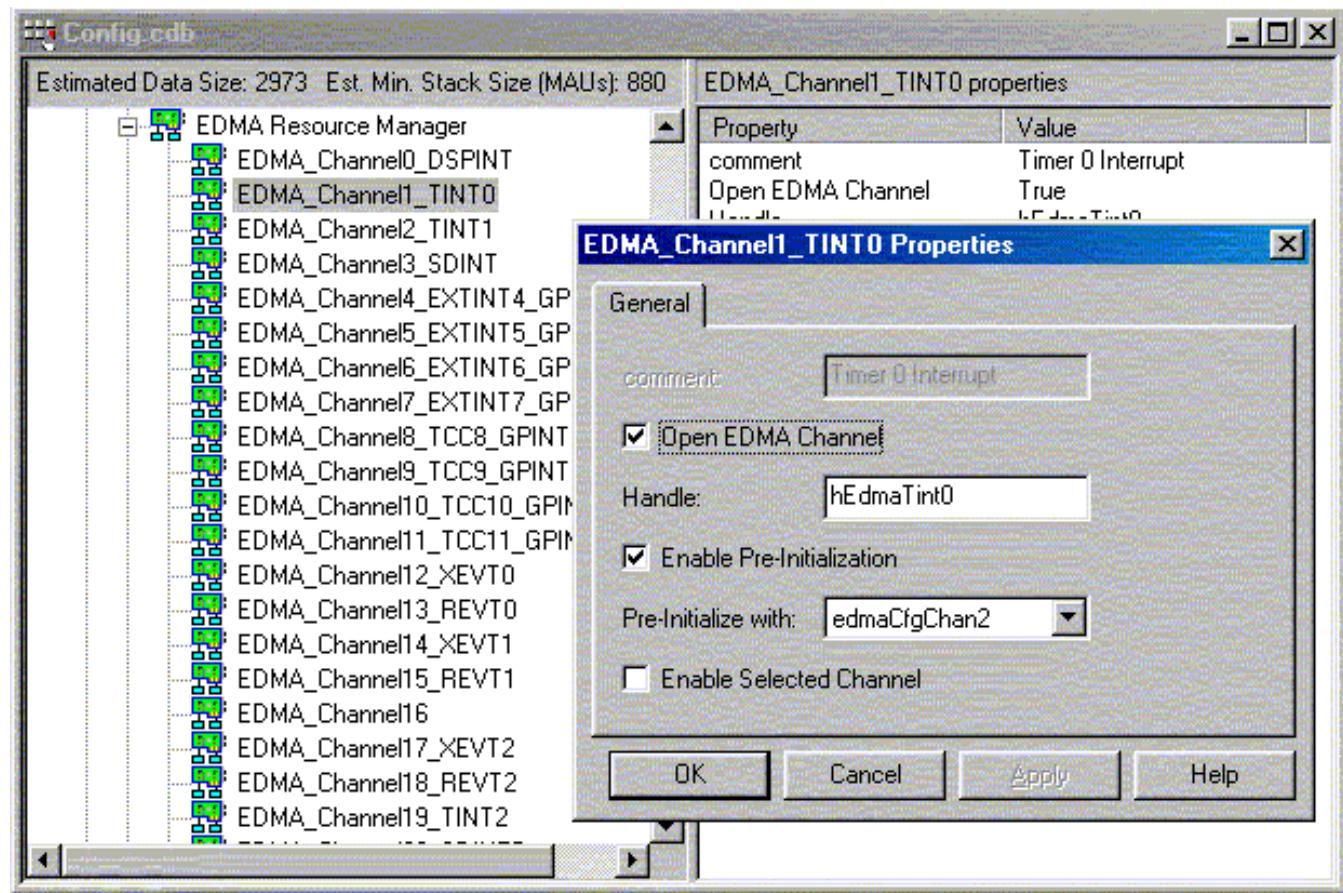

Figure 11. EDMA Chan6 General Tab Options
9. To map this configuration object to the resource, select and expand the EDMA resource manager. Right click on EDMA_channel1_TINTO and select properties. In the general tab, select those options shown in Figure 11. Create an EDMA channel handle called *hEdmaTint0* and enable pre-initialization of EDMA channel 1 registers. In the main program, the user needs to enable the channel. The initialize is done before entering into the main() function.